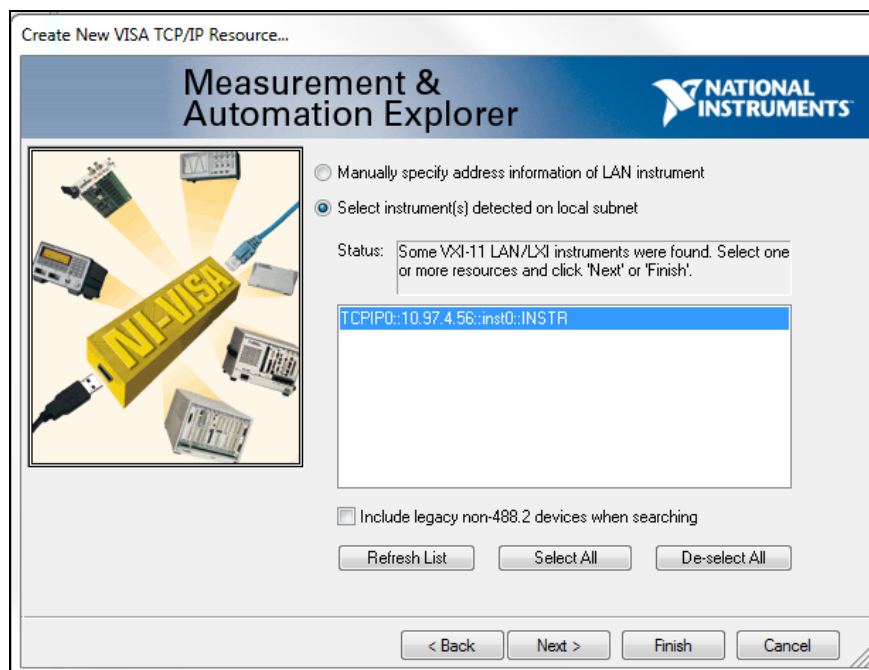

Fig 19
5. The system should automatically find connected LAN devices. Refer to Fig 19.